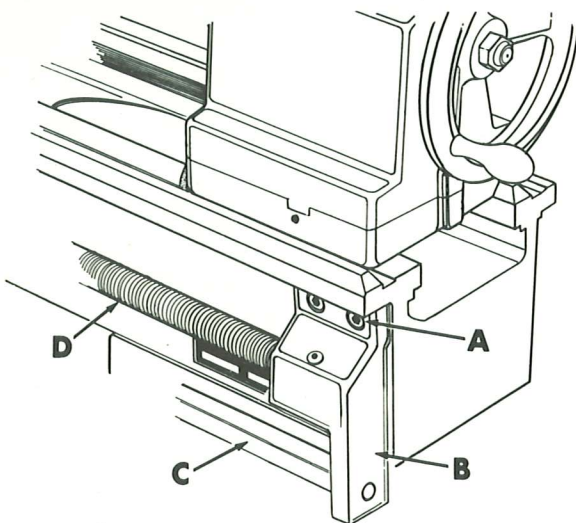

Figure 19
1. Remove two socket cap screws (A, fig. 19) from lead screw bracket (B). Remove bracket from lead screw (D) and clutch rod (C).